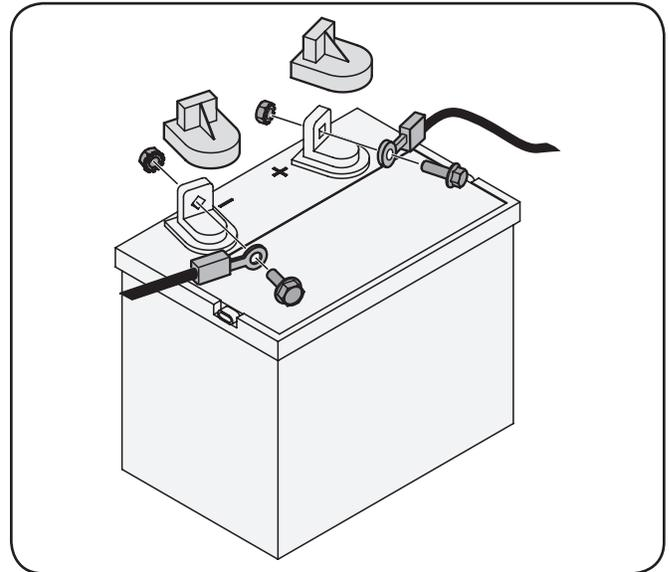

Figure 3-2
1. Remove the plastic cover, if present, from the positive (+) battery terminal and attach the red cable to the positive (+) battery terminal with the bolt and hex nut. See Figure 3-2.
2. Remove the plastic cover, if present, from the negative (-) battery terminal and attach the black cable to the negative (-) battery terminal with the bolt and hex nut. See Figure 3-2.